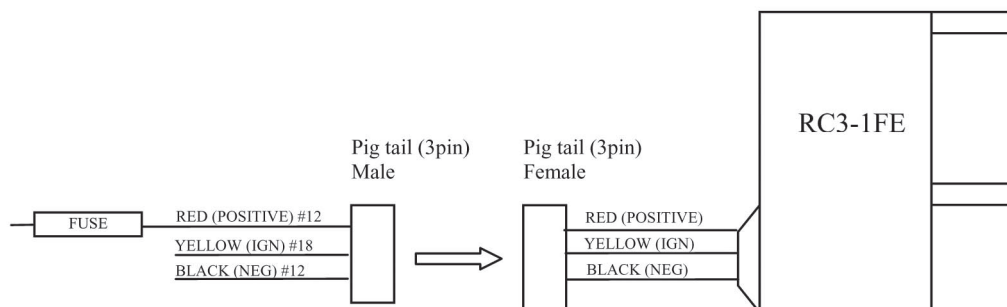

Figure 2. DC connector wiring
2. Wire the DC power connector (Pig Tail female) directly to the battery if possible. Do not use the present vehicle wiring. Use supplied cable harness only. (see figure 2). To avoid a possible fire, or other possible damage, make sure a fuse or circuit breaker is installed at the battery end of the wire. Use an external fuse listed in table I.
Attach DC input wires in accordance to the diagram in figure 2.